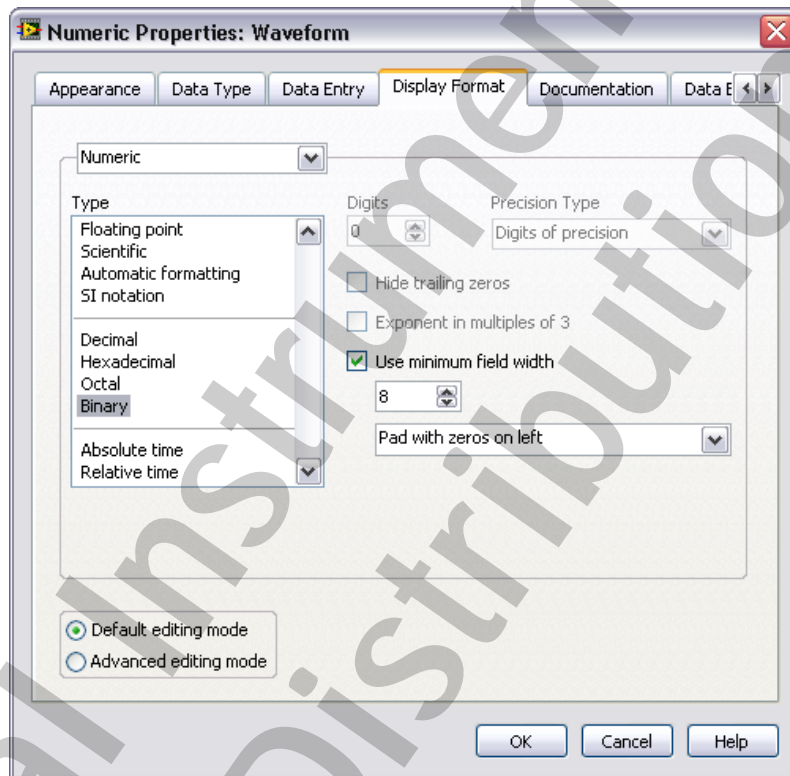

Figure 5-8. Numeric Display Format Dialog
- ☐ Display the numeric array in binary format by right-clicking an element in the numeric array and selecting **Display Format**. The dialog box in Figure 5-8 appears.